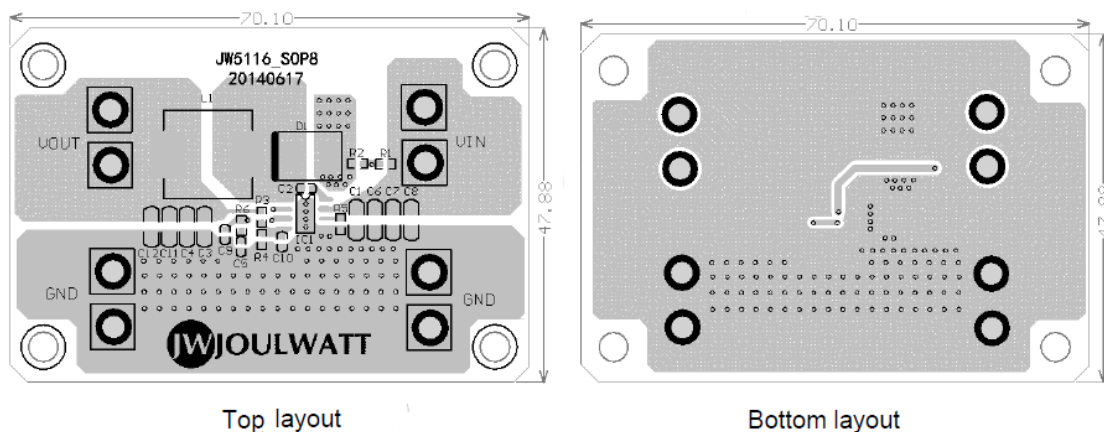

Figure 6: PCB Layout Reference
5. Connect IN, SW, and especially GND respectively to a large copper area to cool the chip to improve thermal performance and long-term reliability. The 2oz copper thickness is suggested for better thermal performance in real application. Figure 6 is the PCB layout reference.